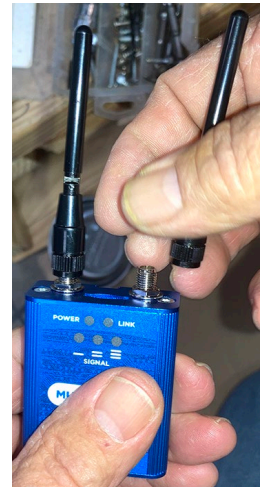
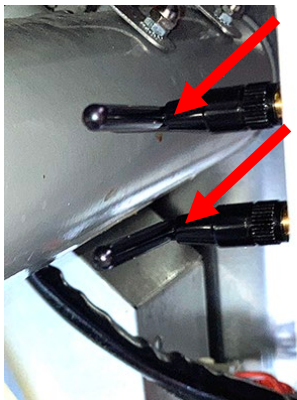

Figure 15
Figure 16
13. If applicable, relocate the cellular modem between the controllers on the rear of the bezel using double sided tape (see Figure 15).
14. If antenna extensions were used, disconnect the extensions and connect antennas directly to the modem (see Figure 15). Ensure the antennas are parallel to each other (see Figure 16).